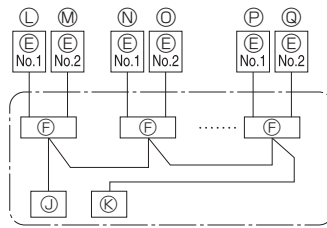

Fig. 6-2
### 6.1. Outdoor unit (Fig. 6-1, Fig. 6-2)
- (1) Remove the service panel.
- (2) Wire the cables referring to the Fig. 6-1 and the Fig. 6-2.
- ① Power supply terminal block (L1, L2, L3, N, ⊕)
- ② Indoor/outdoor connection terminal block (S1, S2, S3)
- ③ Service panel
- ④ Clamp